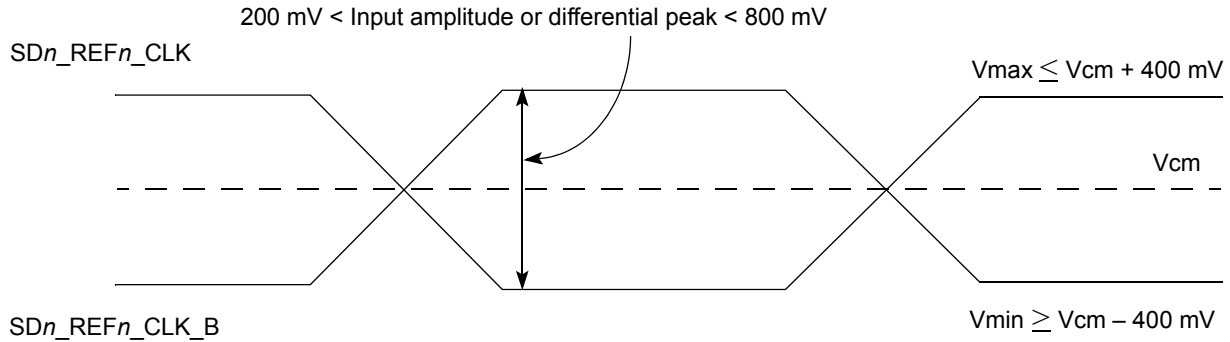

Figure 33. Differential reference clock input DC requirements (external AC-coupled)
- For an external AC-coupled connection, there is no common mode voltage requirement for the clock driver. Because the external AC-coupling capacitor blocks the DC level, the clock driver and the SerDes reference clock receiver operate in different common mode voltages. The SerDes reference clock receiver in this connection scheme has its common mode voltage set to $SDn_XCOREVSS$. Each signal wire of the differential inputs is allowed to swing below and above the common mode voltage ($SDn_XCOREVSS$). Figure 33 shows the SerDes reference clock input requirement for AC-coupled connection scheme.